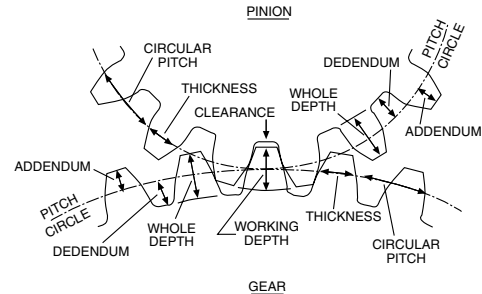

Figure 4.9
- Addendum – the distance from the pitch circle to the throat circle. (See Figure 4.9)